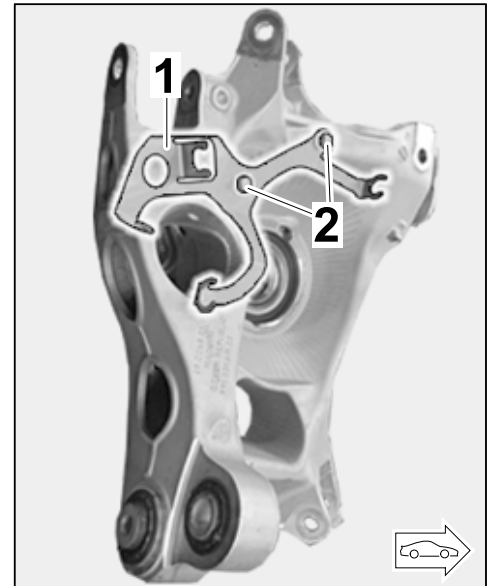

Figure 18
- 2.5.1 Remove combination holder (at the left/right) from the old wheel carrier and fit it on the respective new wheel carrier using two new hexagon-head bolts (M6 x 16) (⇒ *Figure 18*).